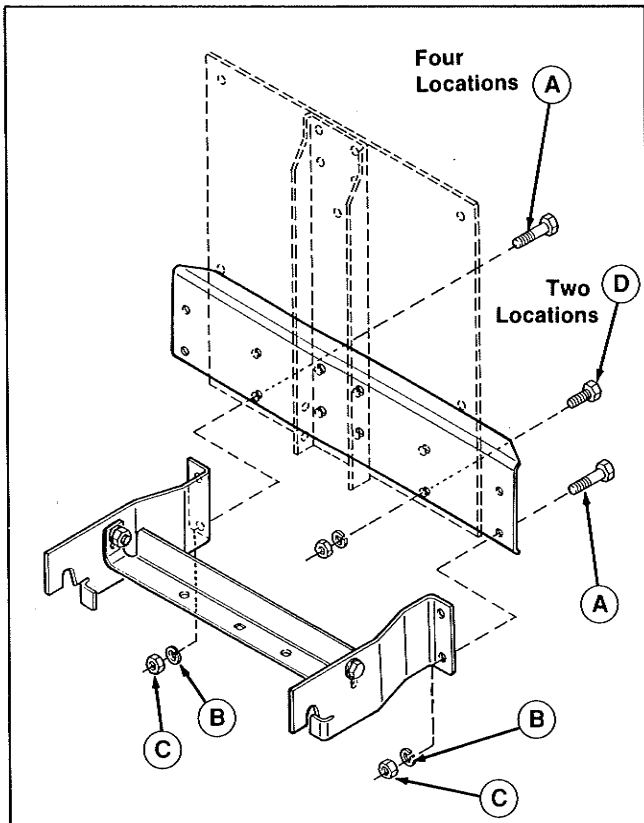

Figure 15. 36" Deck
- For 36" mowers, use the outside left hand holes and the inside right hand holes for capscrew location. Refer to figure 15.
- Assemble drawbar to rear support assembly with four 5/16-18 x 3/4" capscrews (A, figure 15 or 16), lockwashers (B), and nuts (C).
- At inside hole location not used, install 5/16-18 x 5/8" capscrews (D) through rear support and back plate. Secure with lockwashers (E) and nuts (F).